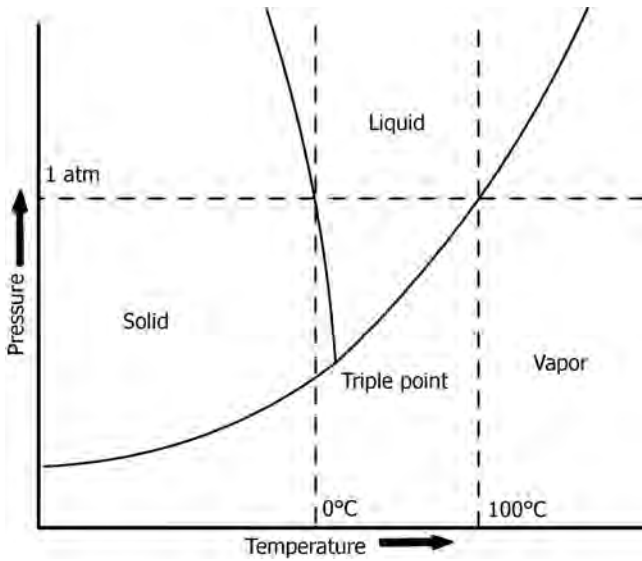

FIGURE 18.33 Phase diagram of water.
- Removal of moisture from the solid is through sublimation, which takes place below triple point of water. Figure 18.33 illustrates phase diagram of water, showing its triple point.